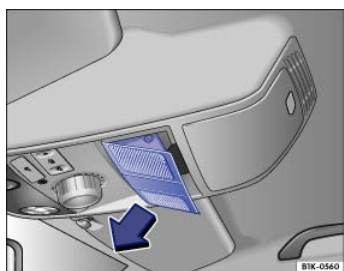

Fig. 187 In headliner: Removing cover.
- Remove the cover in direction of the arrow ⇒ Fig. 187.